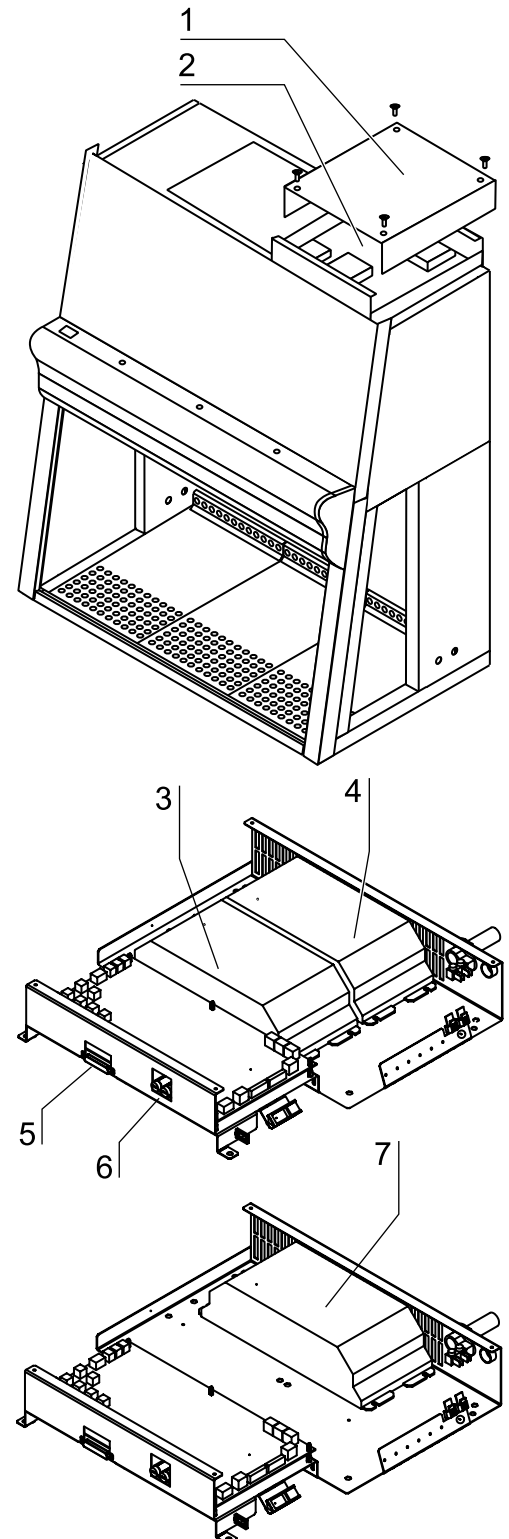

Fig. 39,
**Fig. 39:** The control box [2] is installed to the device ceiling. The control box cover [1] is secured with 4 screws. The power supply units (230 V/115 V) are installed to the master board: